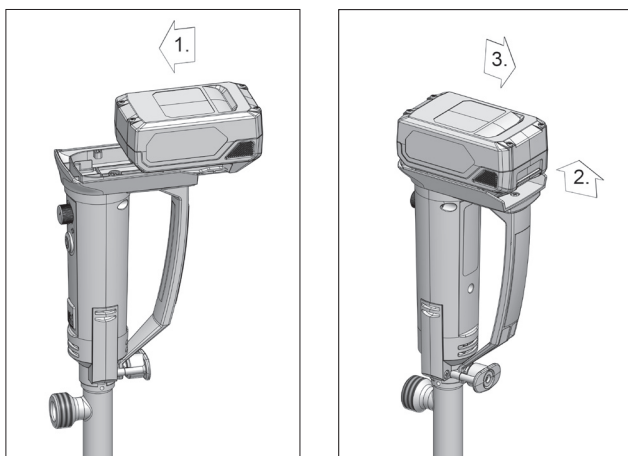

Fig. 5: Motor B2 Battery - installation/removal of the battery
- ▶ Insert the battery into the motor B2 Battery (→ Fig. 5, item 1).
- ▶ When removing the battery, release the lock by pressing it (→ Fig. 5, item 2).
- ▶ Push out the battery (→ Fig 5, item 3).